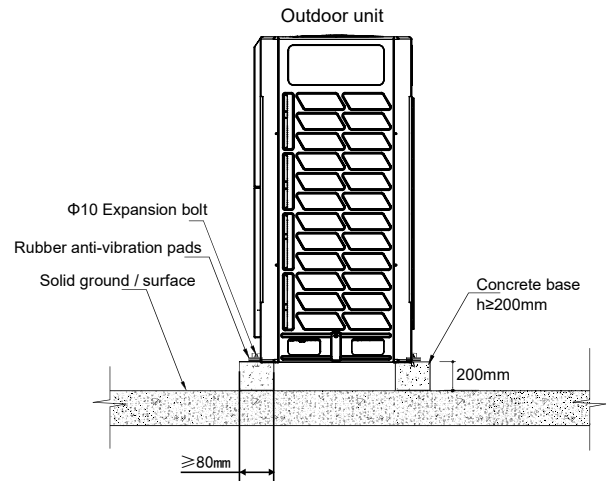

Fig.4-11
- A typical concrete base design is shown in Figure 4-11. A typical concrete specification is 1 part cement, 2 parts sand and 4 parts crushed stone with Φ10mm steel reinforcing bar. The edges of the base should be chamfered.